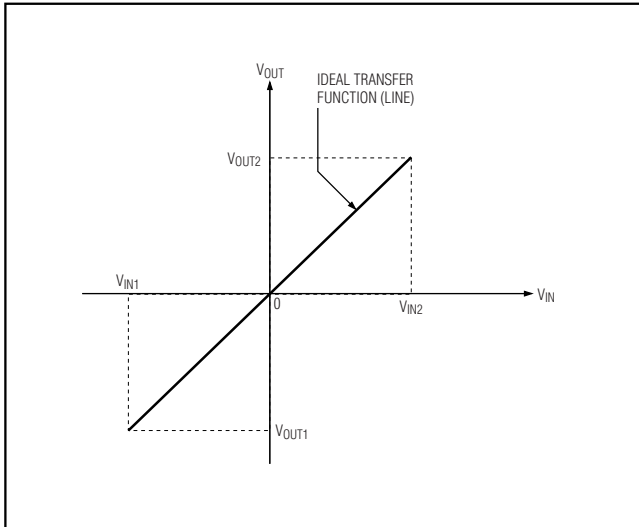
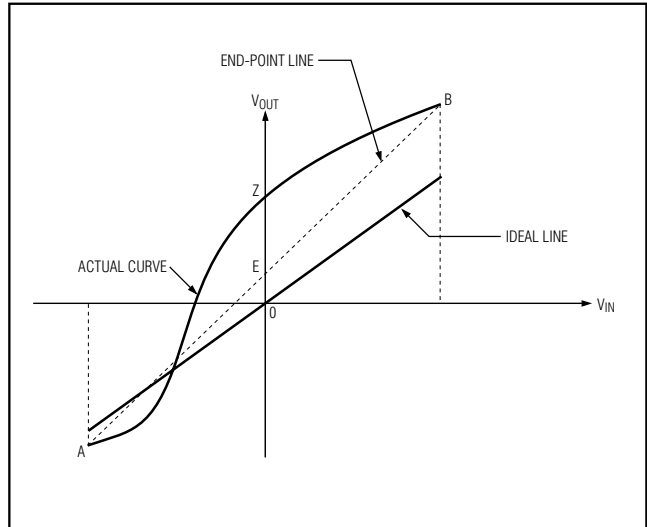
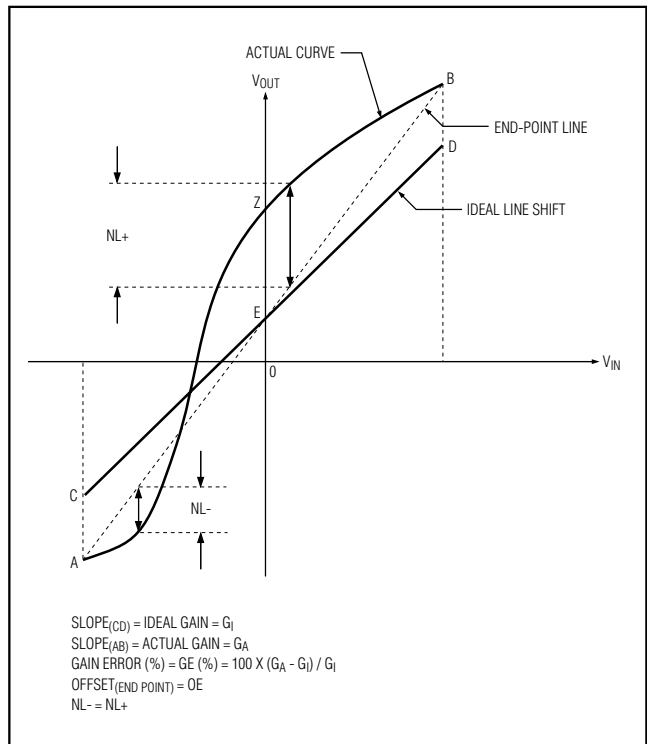

Figure 3. Transfer Function of an Ideal Instrumentation Amplifier (Straight Line Passing Through the Origin)
Figure 4. Typical Transfer Function for a Real Instrumentation Amplifier
Figure 5. Typical Transfer Function for a Real Instrumentation Amplifier (Ideal Line (CD) Is Shifted by the End-Points Offset (OE) to Visualize Gain Error)
In order to understand these terms, we must look at the transfer function of an ideal instrumentation amplifier. As expected, this must be a straight line passing through origin with a slope equal to the ideal gain (Figure 3). If the ideal gain is equal to 10 and the extreme applied input voltages are -100mV and +100mV, then the value of the output voltages are -1V and +1V, respectively. Note that the line passes through the origin and therefore a zero input voltage gives a zero output response.
The transfer function of a real instrumentation amplifier is quite different from the ideal line pictured in Figure 3. Rather, it is a curve such as the one indicated as the typical curve in Figure 4, connecting end points A and B.
Second, even if there was no nonlinearity error, i.e., the actual curve in Figure 4 was a straight line connecting end points A and B, there exists an obvious slope deviation from that of an ideal gain slope (drawn as the “ideal” line in Figure 4). This rotational error (delta slope) is a measure of how different the actual gain ( $G_A$ ) is from the expected ideal gain ( $G_I$ ) and is called gain error (GE) (see the equation below).
Figure 5 is the same as Figure 4, but the ideal line (CD) is shifted up to pass through point E (the Y intercept of end-points line AB).
The rotational nature of gain error, and the fact that it is pivoted around point E in Figure 5, shows that gain-error contribution to the total output voltage error is directly proportional to the input voltage. At zero input voltage, the error contribution of gain error is zero, i.e., the total deviation from the origin (the expected zero output value) is only due to end-points OE and nonlinearity error at zero value of input (segment EZ on the vertical axis).
The nonlinearity is the maximum deviation from a straight line, and the end-point nonlinearity is the deviation from the end-point line. As shown in Figure 5, it is likely that two nonlinearities are encountered, one positive and the other a negative nonlinearity error, shown as NL+ and NL- in Figure 5.